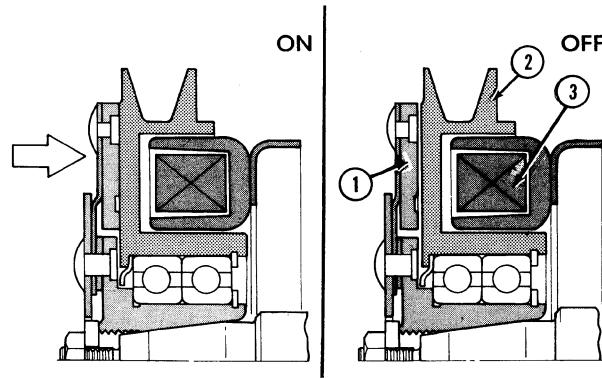

Figure 14
Operation of the magnetic clutch is shown in Figure 14. Current is supplied to the field coil (3), locking the drive shaft to the magnetic clutch drive pulley (2). When current is turned off the magnetic clutch drive pulley stops while the armature plate (1) continues to turn. Current is provided by a switch on the instrument panel.